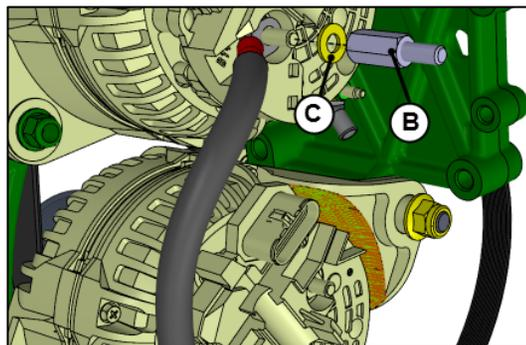

FIGURE 8
10. Remove old stud adapter **B** (FIGURE 8).
12. Install appropriate new stud adapter **B**. Make sure the jumper cable terminal and the flat washer **C** are still in place (FIGURE 8).